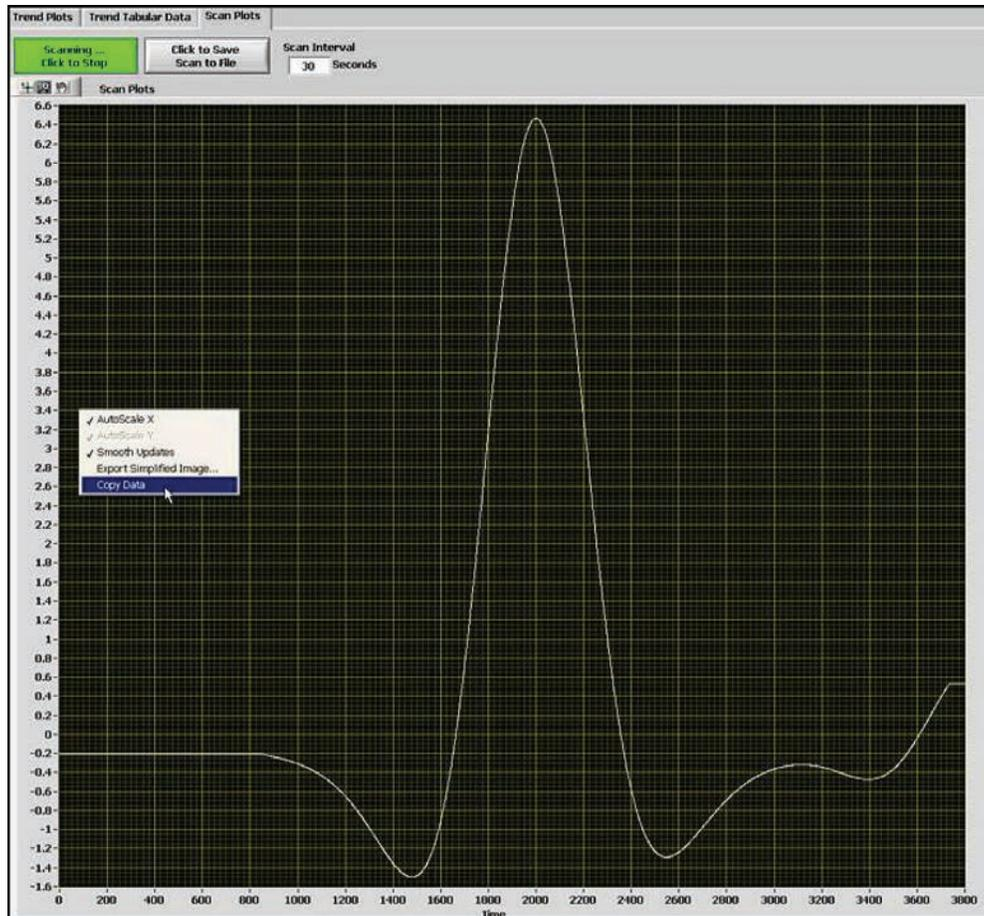
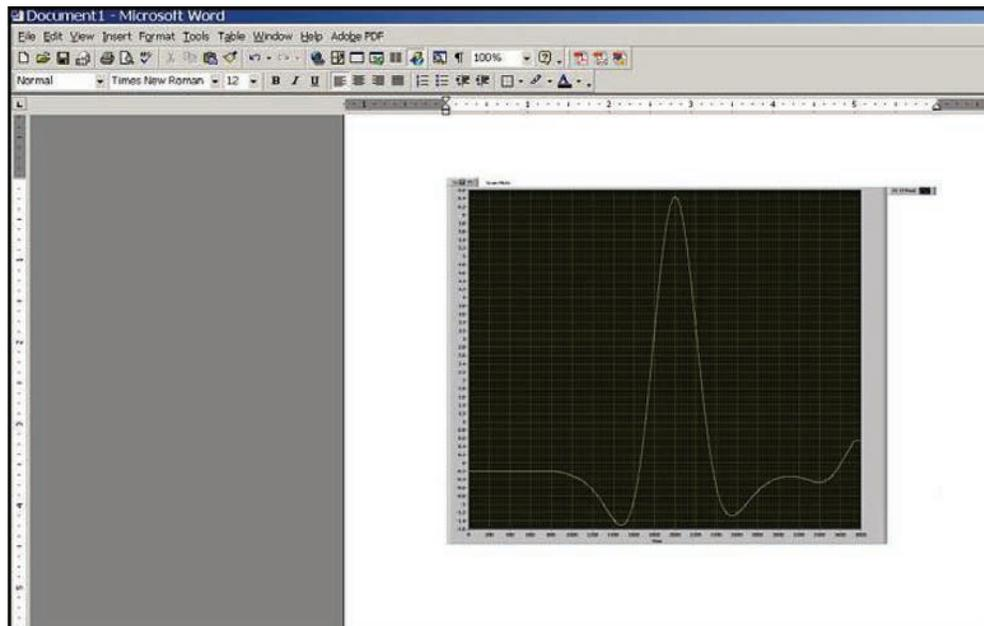

Figure 72: Copying a trend plot
Figure 73: Pasting a trend plot
4. Copying and pasting a trend plot can be done from **AuroraView** (see *Figure 72* and *Figure 73* below) One way to do this quickly is to simply right click over the data area and choose copy. In another application, like Microsoft Word, simply paste.